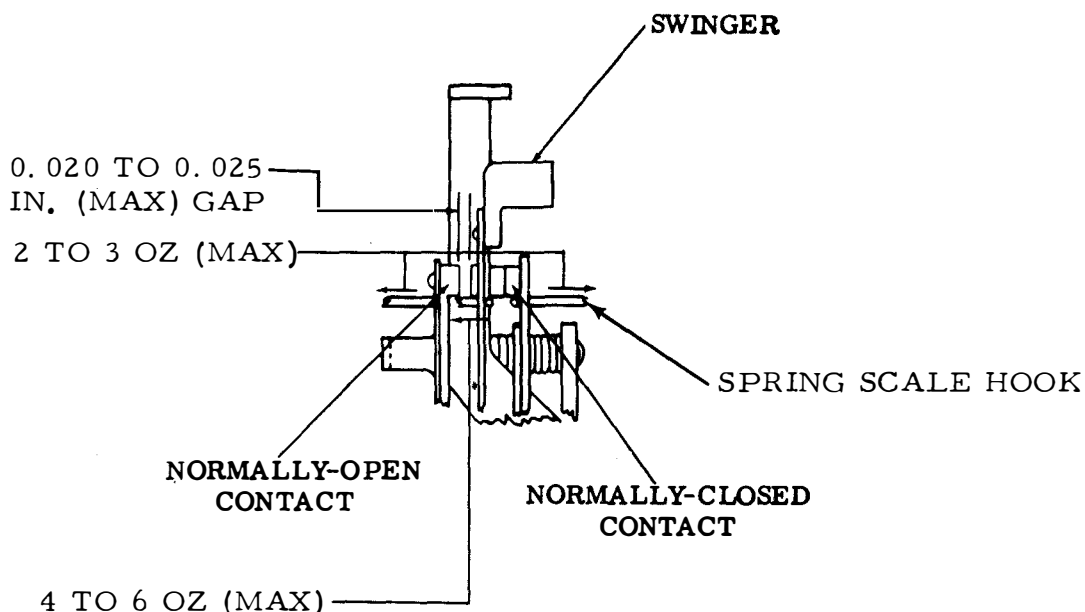

Figure 6-410. Contact, Normally-Open Contact Gap, Contact Spring, and Swinger Spring, Right Rear View
(1) Contact. Adjust as follows:
- (a) Refer to Figure 6-410.
(2) Normally-Open Contact Gap. Adjust as follows:
(3) Contact Springs (Two Springs). Adjust as follows:
(4) Swinger Spring. Adjust as follows: